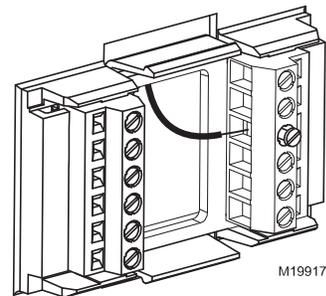

Fig. 8. Inserting wires in terminal block.
- Loosen the screws for the appropriate system type selected; see Table 1. See Table 2 for terminal designation descriptions. Insert wires in the terminal block under the loosened screw. See Fig. 8.